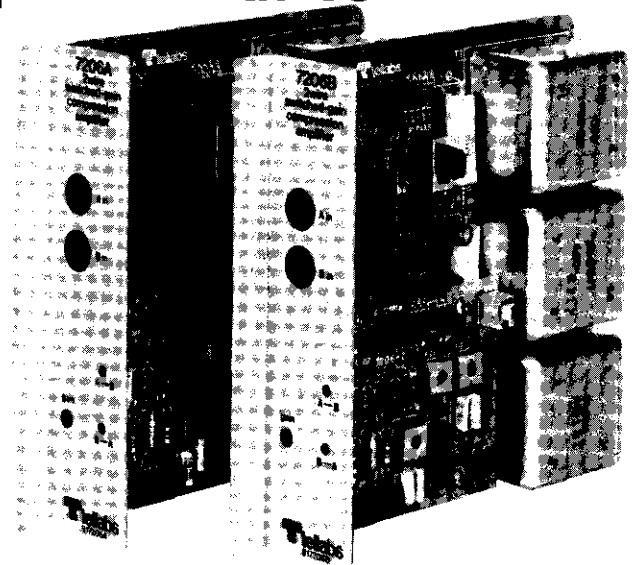

figure 1. 7206A and 7206B 2Wire Switched-Gain
1.01 The Tellabs 7206A and 7206B 2Wire Switched-Gain Compression Amplifier modules (figure 1) combine linear gain with automatic gain control to provide a 2wire cable facility with continuously adjustable bidirectional gain and automatic gain control (compression). As such, the 7206A and 7206B are intended for applications where transmission levels vary greatly from call to call, as is typically experienced in extended WATS calling arrangements, key-telephone conferencing applications, and off-premises extensions (OPX).